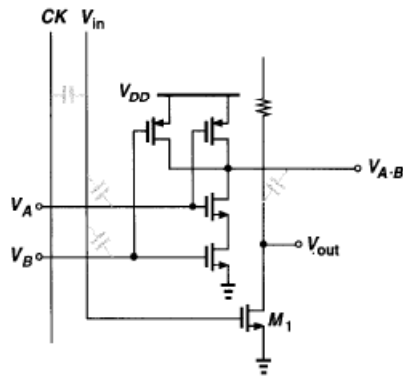

Figure 18.38 Capacitive coupling between various lines in a typical layout.
- Fig. 18.38: example of cross-talk between signals